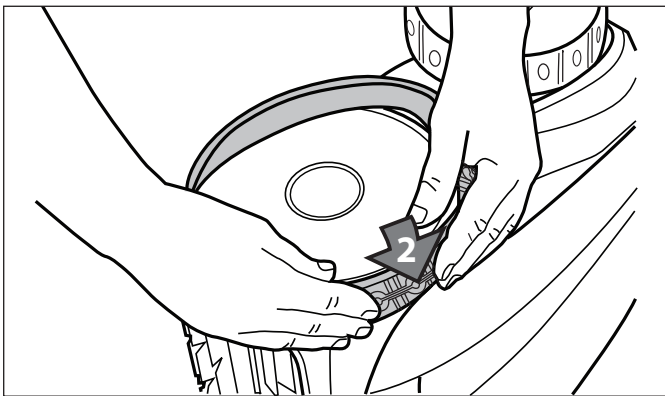

Figure 41. Start on One Side of the Tyre
4. Push one side of the tyre on to the wheel and fit the rib of the tyre in the groove of the wheel (Figure 41).